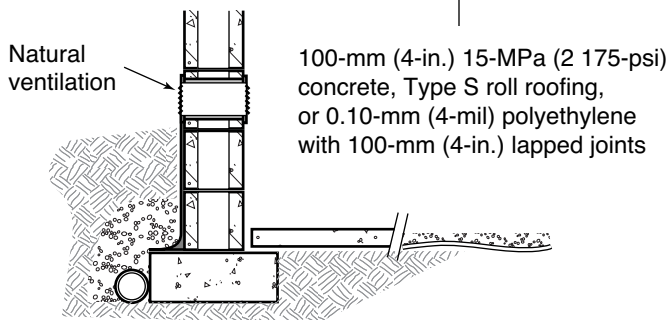

FIGURE 31
- ◆ Natural ventilation should be supplied for unheated crawl spaces during the summer and fall by a vent area of not less than 0.1 m^2 for every 50 m^2 (1 sq. ft./500 sq. ft.) of floor area, evenly distributed on opposite sides of the crawl space to promote cross ventilation. Vents shall be screened to prevent the entry of snow, rain, and insects (see Figure 31).